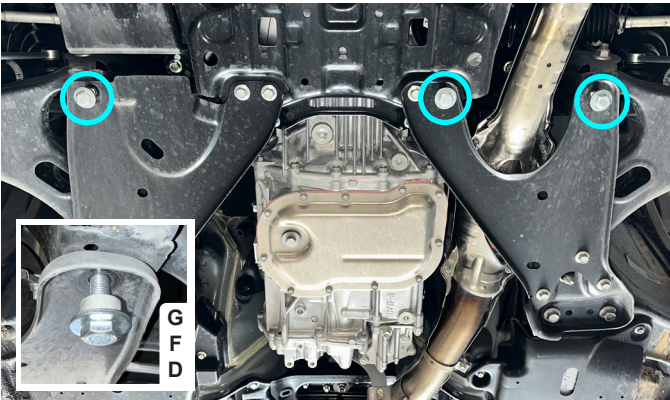

Fig. 7
7. Screw bolts M10x35, washers 10 and spacers 10 (item D,F,G) on 2-3 turns as shown in fig.7.